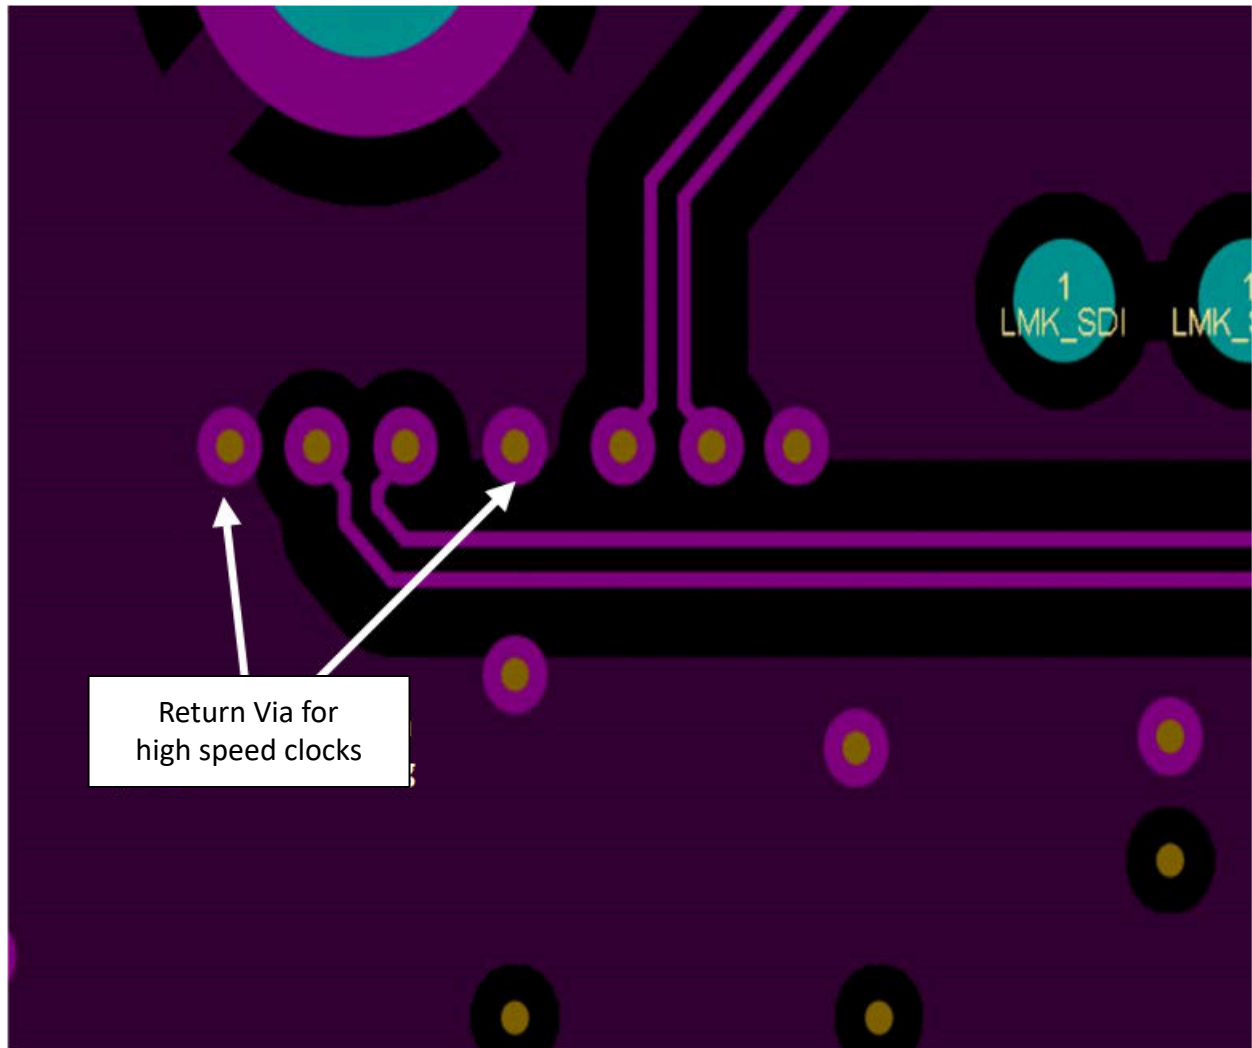
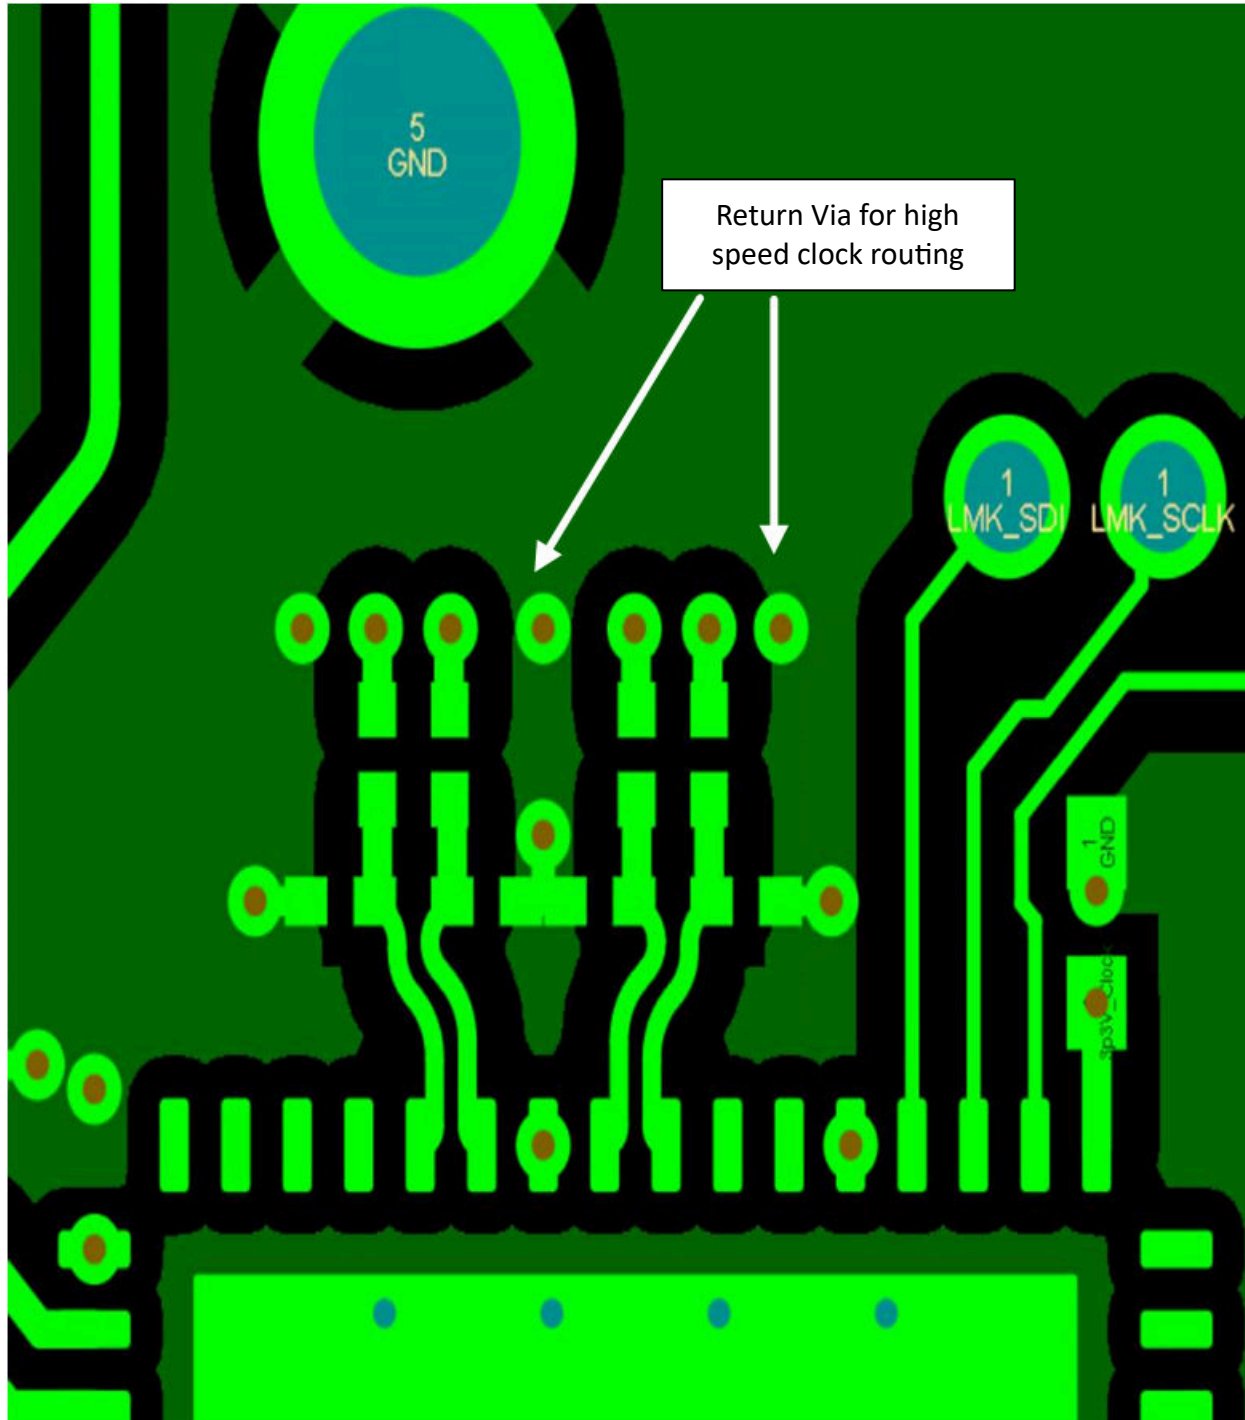

Figure 8-26. Return Vias for High Speed Clock
Figure 8-27. Return Vias for High Speed Clock Near Clock Generator
8. When high-speed signals must transition to another layer using vias, transition as far through the board as possible (top to bottom is best case) to minimize via stubs on top or bottom of the vias. If layer selection is not flexible, use back-drilled or buried, blind vias to eliminate stubs. Always place two ground vias (“return vias”) close to critical high-speed signal trace via when transitioning between layers to provide a nearby ground return path. See Figure 8-26 and Figure 8-27 as examples.